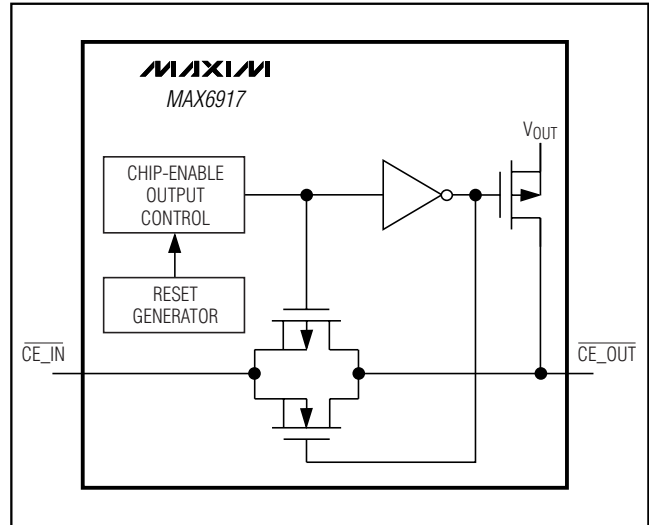

Figure 14. Chip-Enable Gating
Internal gating of chip-enable (CE) signals prevents erroneous data from corrupting external SRAM in the event of an undervoltage condition. The MAX6917 uses a transmission gate from  $\overline{CE\_IN}$  to  $\overline{CE\_OUT}$  (Figure 14). During normal operation ( $\overline{RESET}$  inactive), the transmission gate is enabled and passes all CE transitions. When reset is asserted, this path becomes disabled, preventing erroneous data from corrupting the external SRAM. The short CE propagation delay from  $\overline{CE\_IN}$  to  $\overline{CE\_OUT}$  enables the MAX6917 to be used with most  $\mu$ Ps. If  $\overline{CE\_IN}$  is low when reset asserts,  $\overline{CE\_OUT}$  remains low for  $t_{rCE}$  to permit completion of the current write cycle.
When the CE transmission gate is enabled, the impedance seen at  $\overline{\text{CE\_OUT}}$  is equivalent to a  $46\Omega$  (typ) resistor in series with the source driving  $\overline{\text{CE\_IN}}$ . In the disabled mode, the transmission gate is off and an active pullup connects  $\overline{\text{CE\_OUT}}$  to  $V_{\text{OUT}}$  (see Figures 14, 16). This pullup turns off when the transmission gate is enabled.